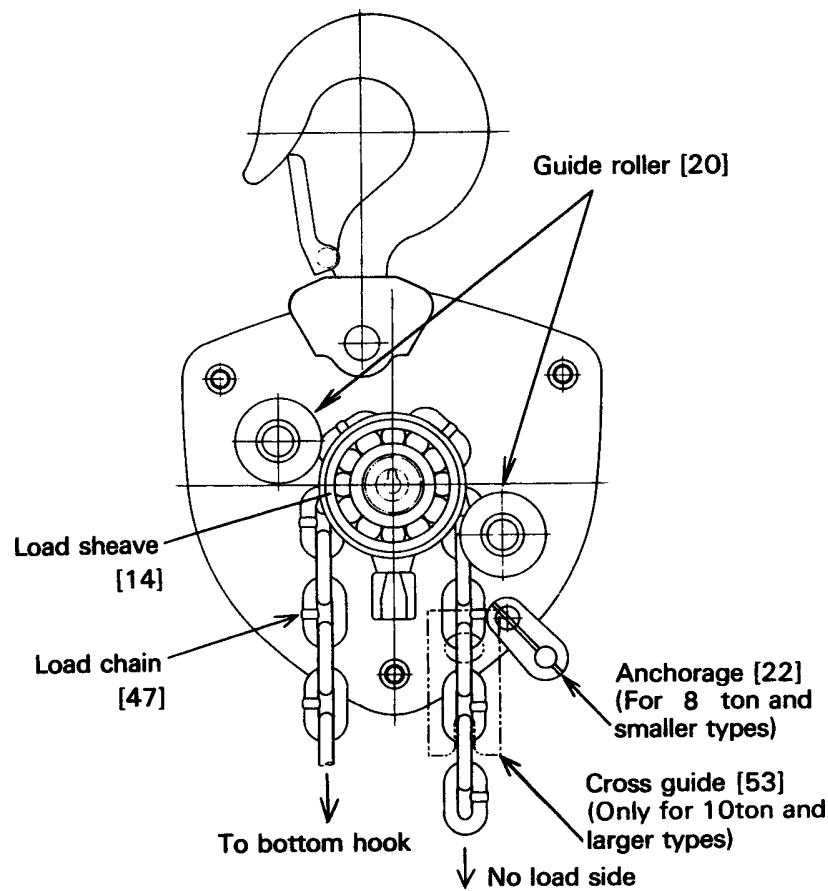

Figure 6-6 Reaving Assembly
- 13) Reeve the load chain [47] turning the pinion clockwise through the space between the left (bottom hook side) guide roller [20] and the load sheave [14]. See figure 6-6.